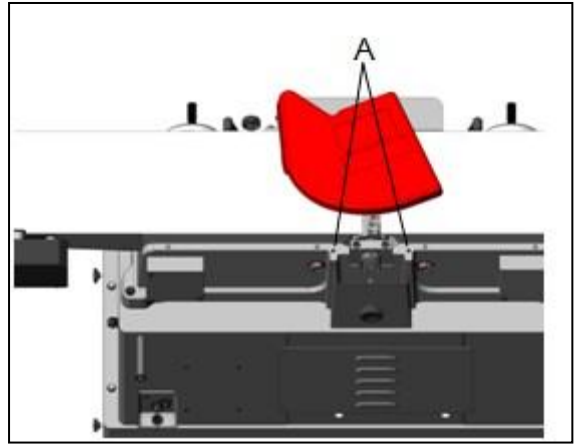
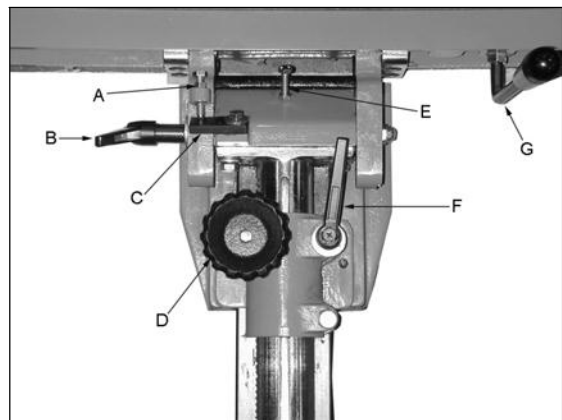

Fig. 4
Fig. 5
1. Mount the fence (Fig. 5) to the machine base (Fig. 4) lining up the holes (A) with the matching holes of the fence bracket, using the allen bolts provided.
The various adjustments, locks and handles are shown in Fig.5.
2. Loosen the angle lock handle (B, Fig. 5).
To tilt the fence, see Fig.5. Loosen angle lock handle 'B', flip up the stop 'C', and tilt the fence with the fence angle adjusting handle 'G' to the desired angle. Use a protractor or adjustable triangle to set the angle. A 45 degree stop, 'E' is provided for quick set-up at this angle.